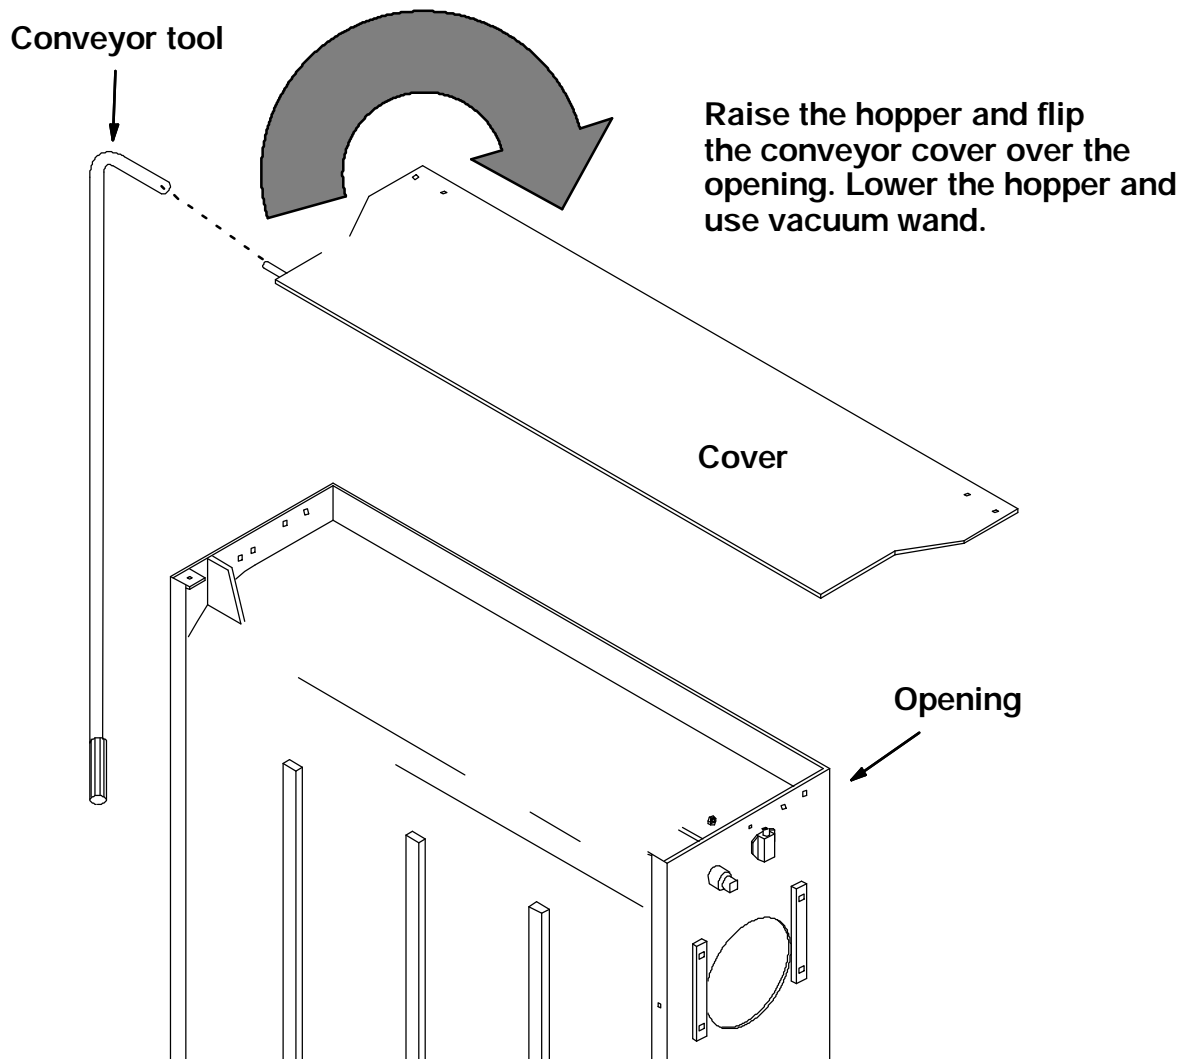

FIG. 6 - Flip The Conveyor Door To Operate Vacuum Wand
(Refer to FIG. 6 and 7)
5. Use the tool (10) to flip the conveyor door over the opening in the top of the conveyor assembly. (Refer to Fig. 6)